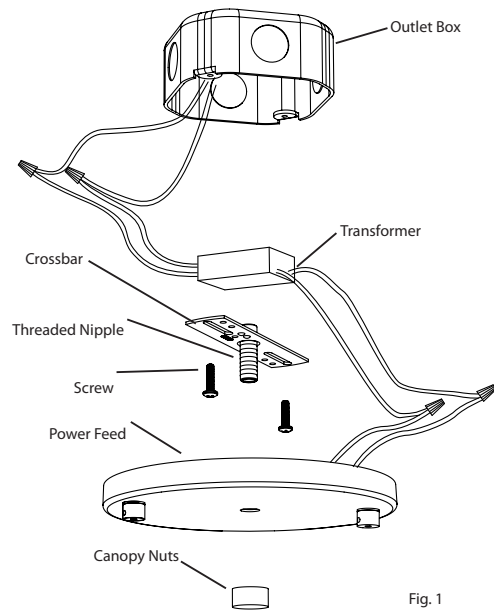

Fig. 1
Shallow Power Feed Installation (Fig. 1):
3. Cut an opening in the mounting surface (minimum 3/8" thick) that measures 1.5" wide by 2.75" high (Fig. 1).
4. Pull **1/2 trade size flexible metal conduit or building cable** through the opening (Fig. 1).
5. Remove the three **Phillips Screws** and separate the Minibox into **Upper** and **Lower Halves** (Fig. 1).
6. Remove the knockout tab from the **Upper Half** and attach the **Cable/Conduit** to the knockout opening using appropriate connectors (Note: Cable/Conduit and connectors not included) (Fig. 1).
- d. **For 60W and 75W unhooused Transformers only:** Carefully place connections and transformer in **Lower Half**, with the connections in the section near the knockout (Fig. 1).
9. Reattach upper and lower halves by installing the three **Phillips Screws** removed previously (Fig. 1).
10. Loosen the two **Mounting Screws** on the front face of the Minibox until the gap between the **Wing Tabs** and the **Side Tabs** is greater than the thickness of the mounting surface (Fig. 1).